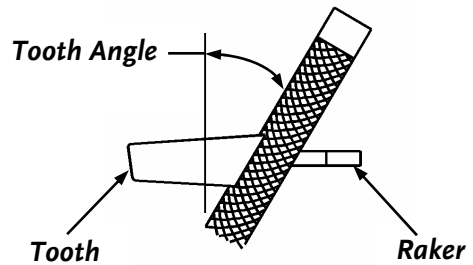
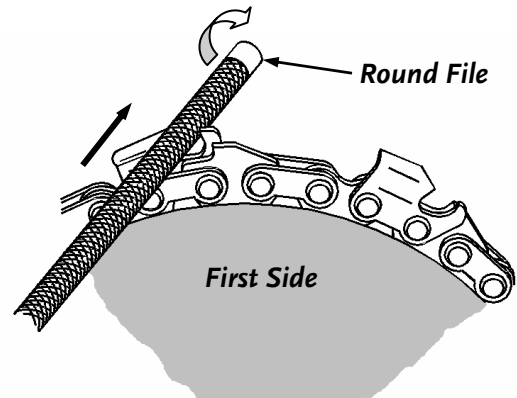

Figure 9
Figure 10
3. While holding the beaver blade in a standing (vertical) position, Place the round file into the tooth at the same angle as the cutting edge of the tooth (**Figure 9**). Lightly push the file across the cutting edge and through the tooth, twisting the file a half turn with each stroke (**Figure 10**).